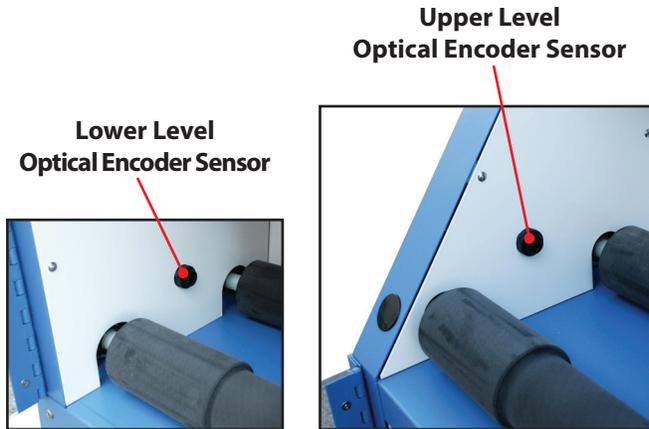

Figure 4
The MD-2000 jars, steel balls and magnetic pickup tool are packed in a separate box. Inspect for external and internal damage of these items in the same manner as for the instrument cabinet. Look specifically for possible damage to the encoder decals on the jar lids (see Figure 3). The optical encoder (see Figure 4) may not function properly if these decals are damaged. Make damage claims immediately to the freight carrier.
(see Figure 4).
5. Place the jar on its side on the roller set with the clamping end facing the optical encoder (see Figure 4).